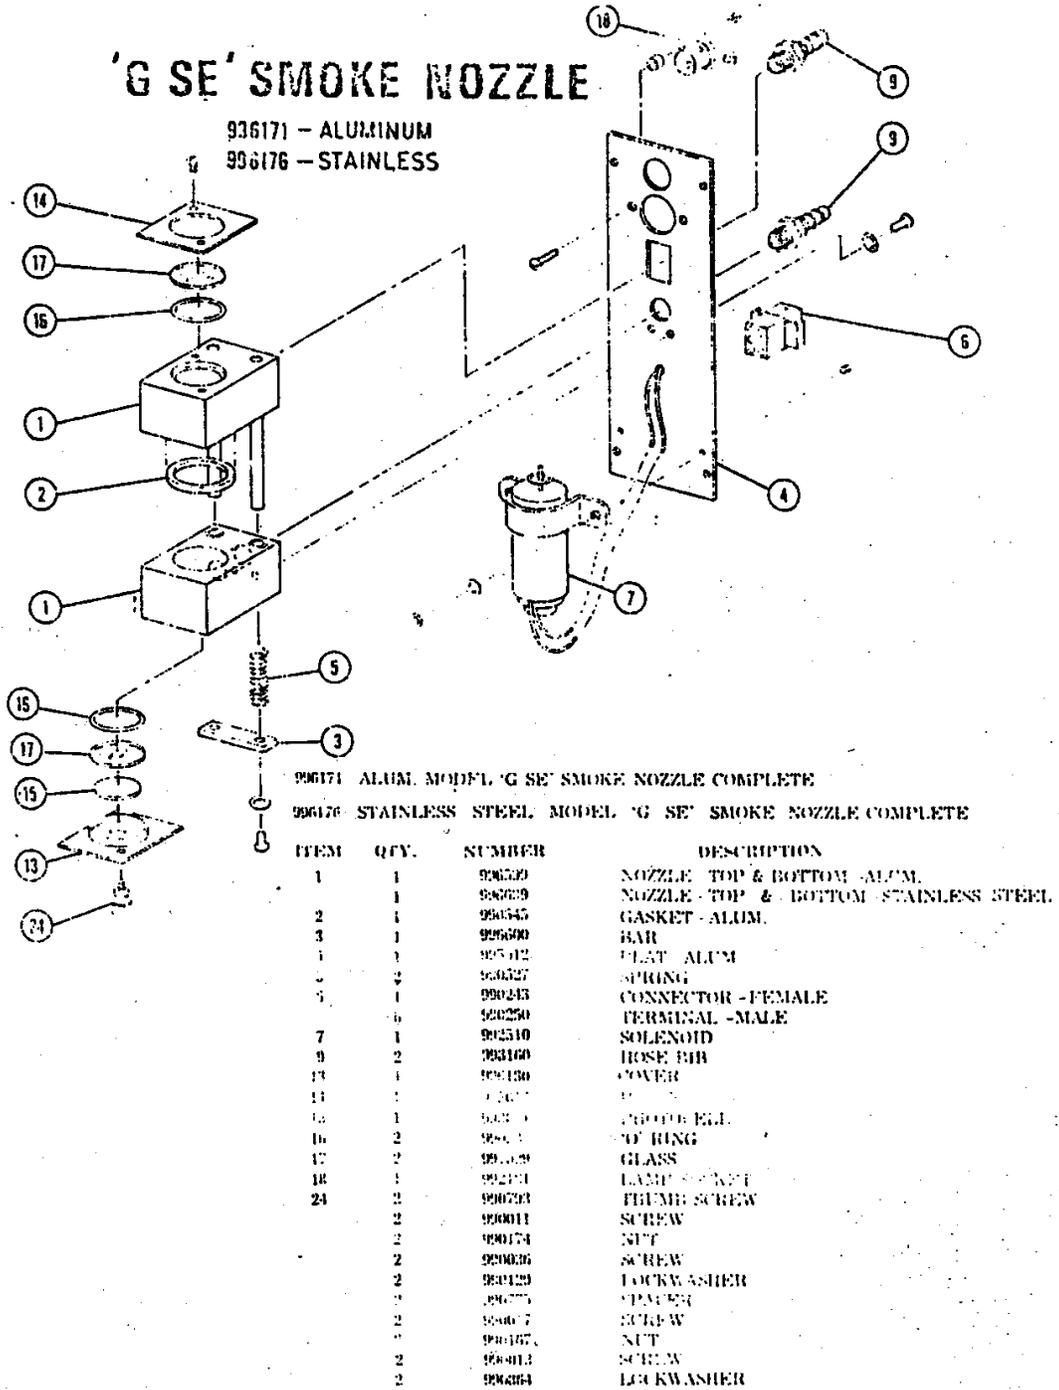

Figure K.1.3.3
K.1.3.2 OPTICS - The photocell and the nozzle windows are delicate and require careful handling. Figure K.1.3.3 show sampler optics components and their assembly sequence for Model "G SE".